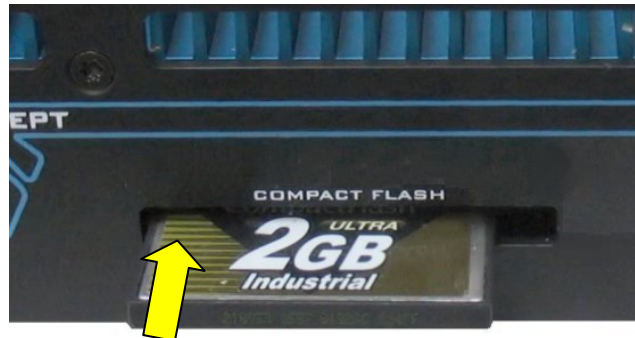

Fig. 15: Installing the CompactFlash™ card
2. Insert the CompactFlash™ card with the connectors facing forward into the CF slot as shown in Fig. 15.